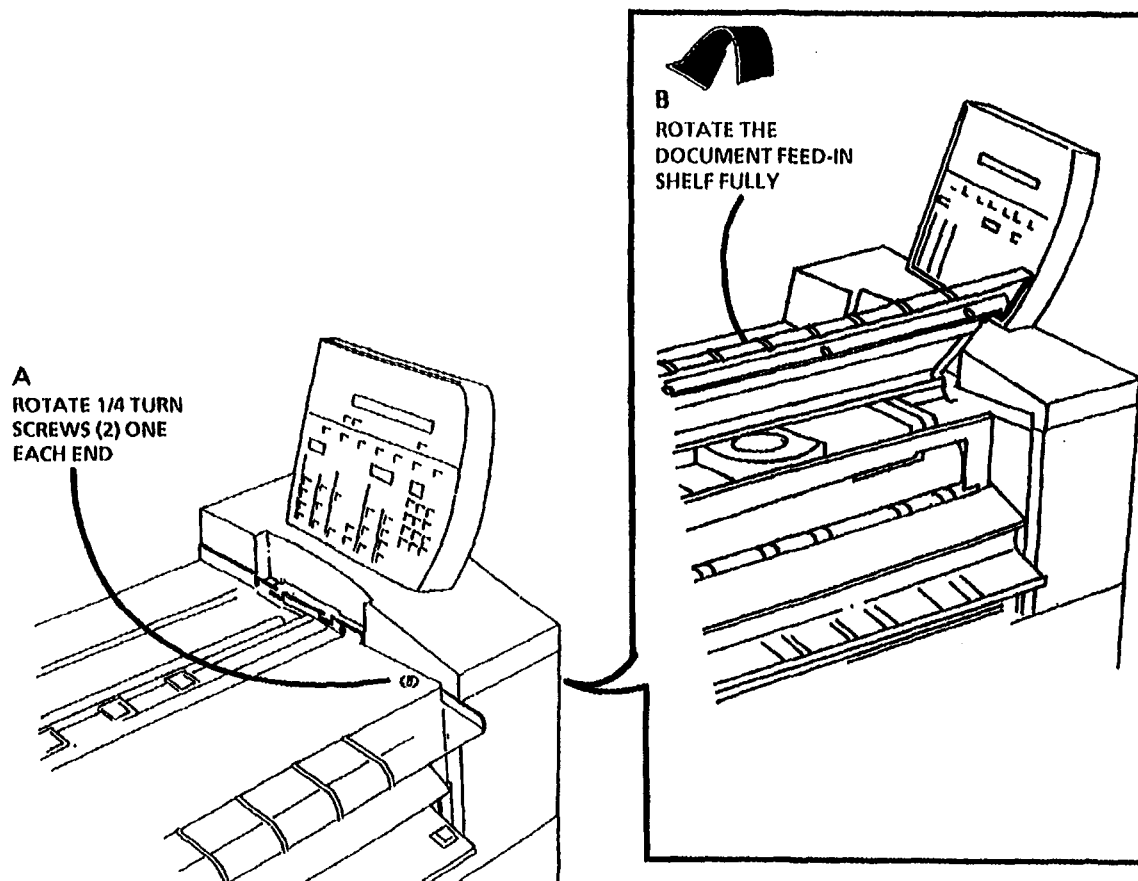

Figure 1. Lift the Document Feed-In Shelf
5. (Figure 1): Lift the Document Feed-In Shelf.